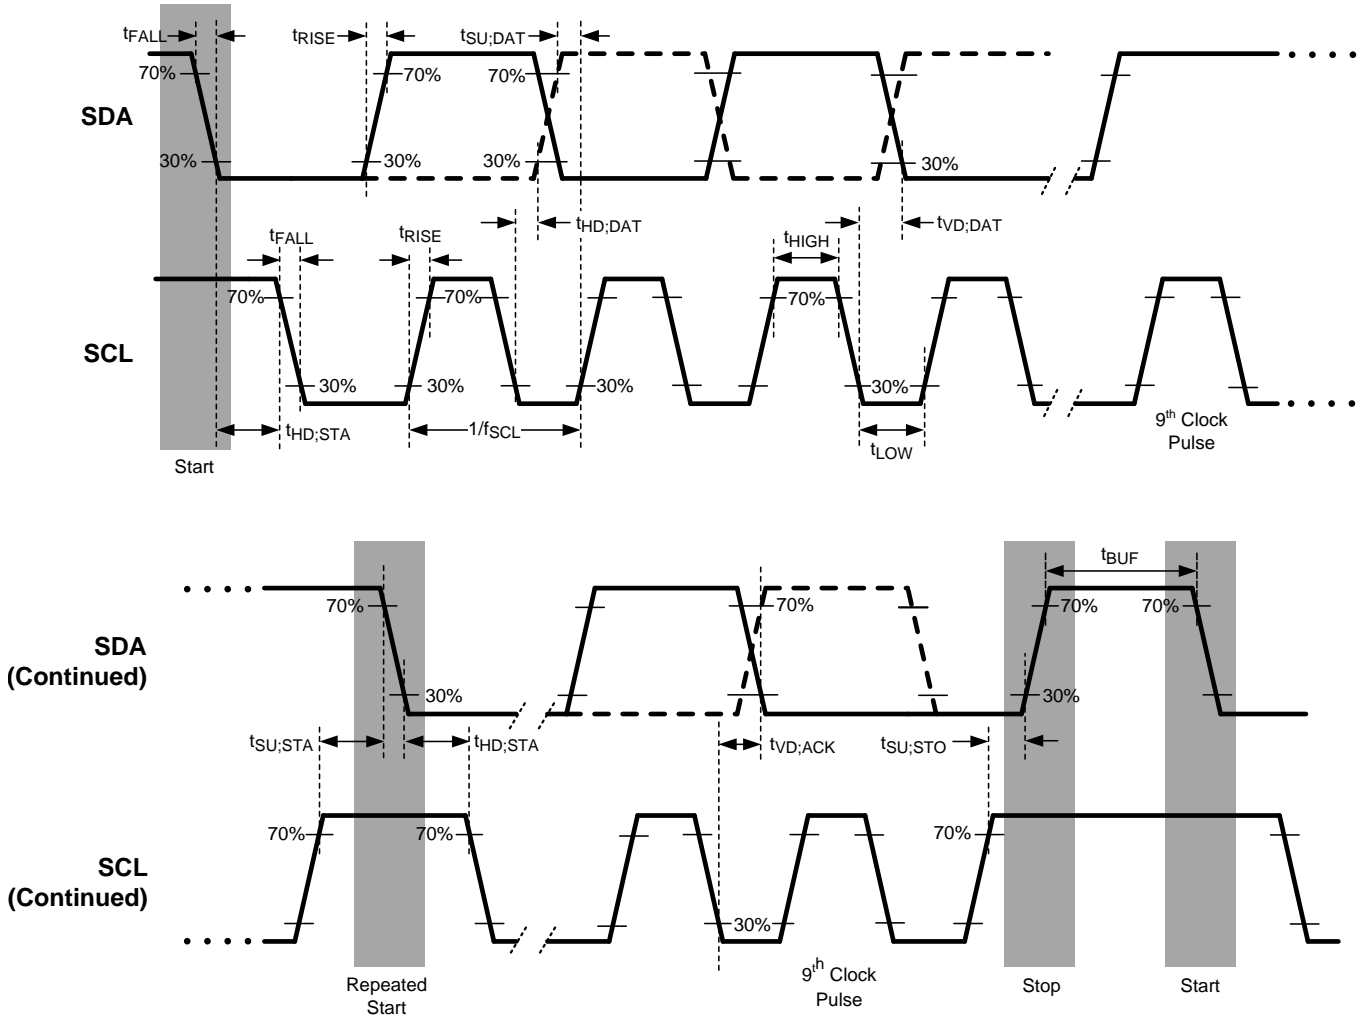

Figure 4. I2C Timing
I2C-Compatible Timing Specifications (SCL, SDA)(5) see Figure 4